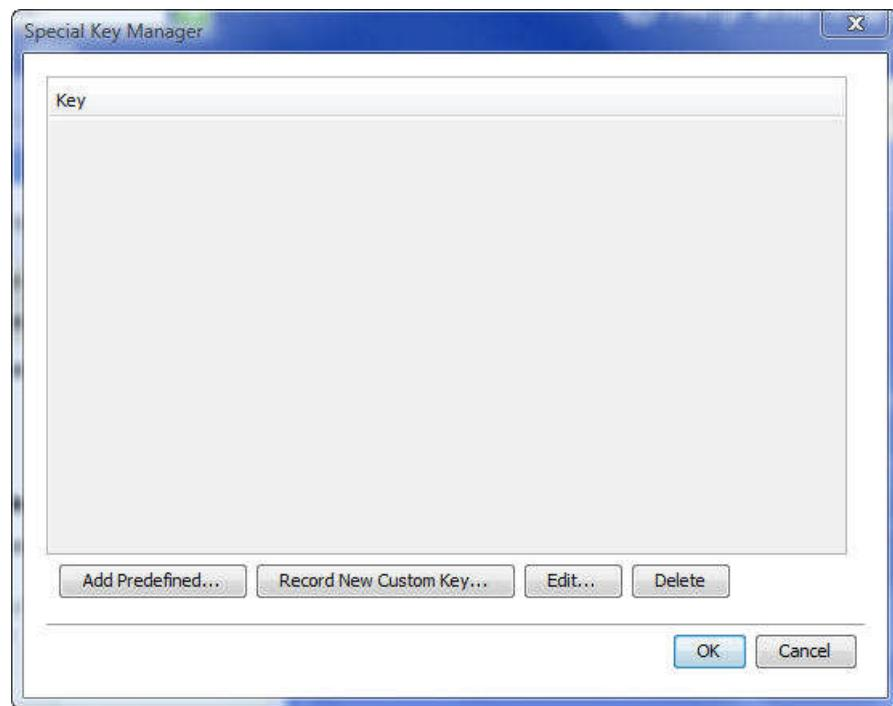

Figure 60 – Special Key Manager
1. In the Special Key Manager box (see Figure 60), click **Record New Custom Key**.
1. In the Special Key Manager box (see Figure 60), select the desired key sequence and click **Edit**.
1. In the Special Key Manager box (see Figure 60), select the desired key sequence(s) to delete. Select a group of keys by selecting the first key in the group, pressing the **Shift** button, and then selecting the last key.